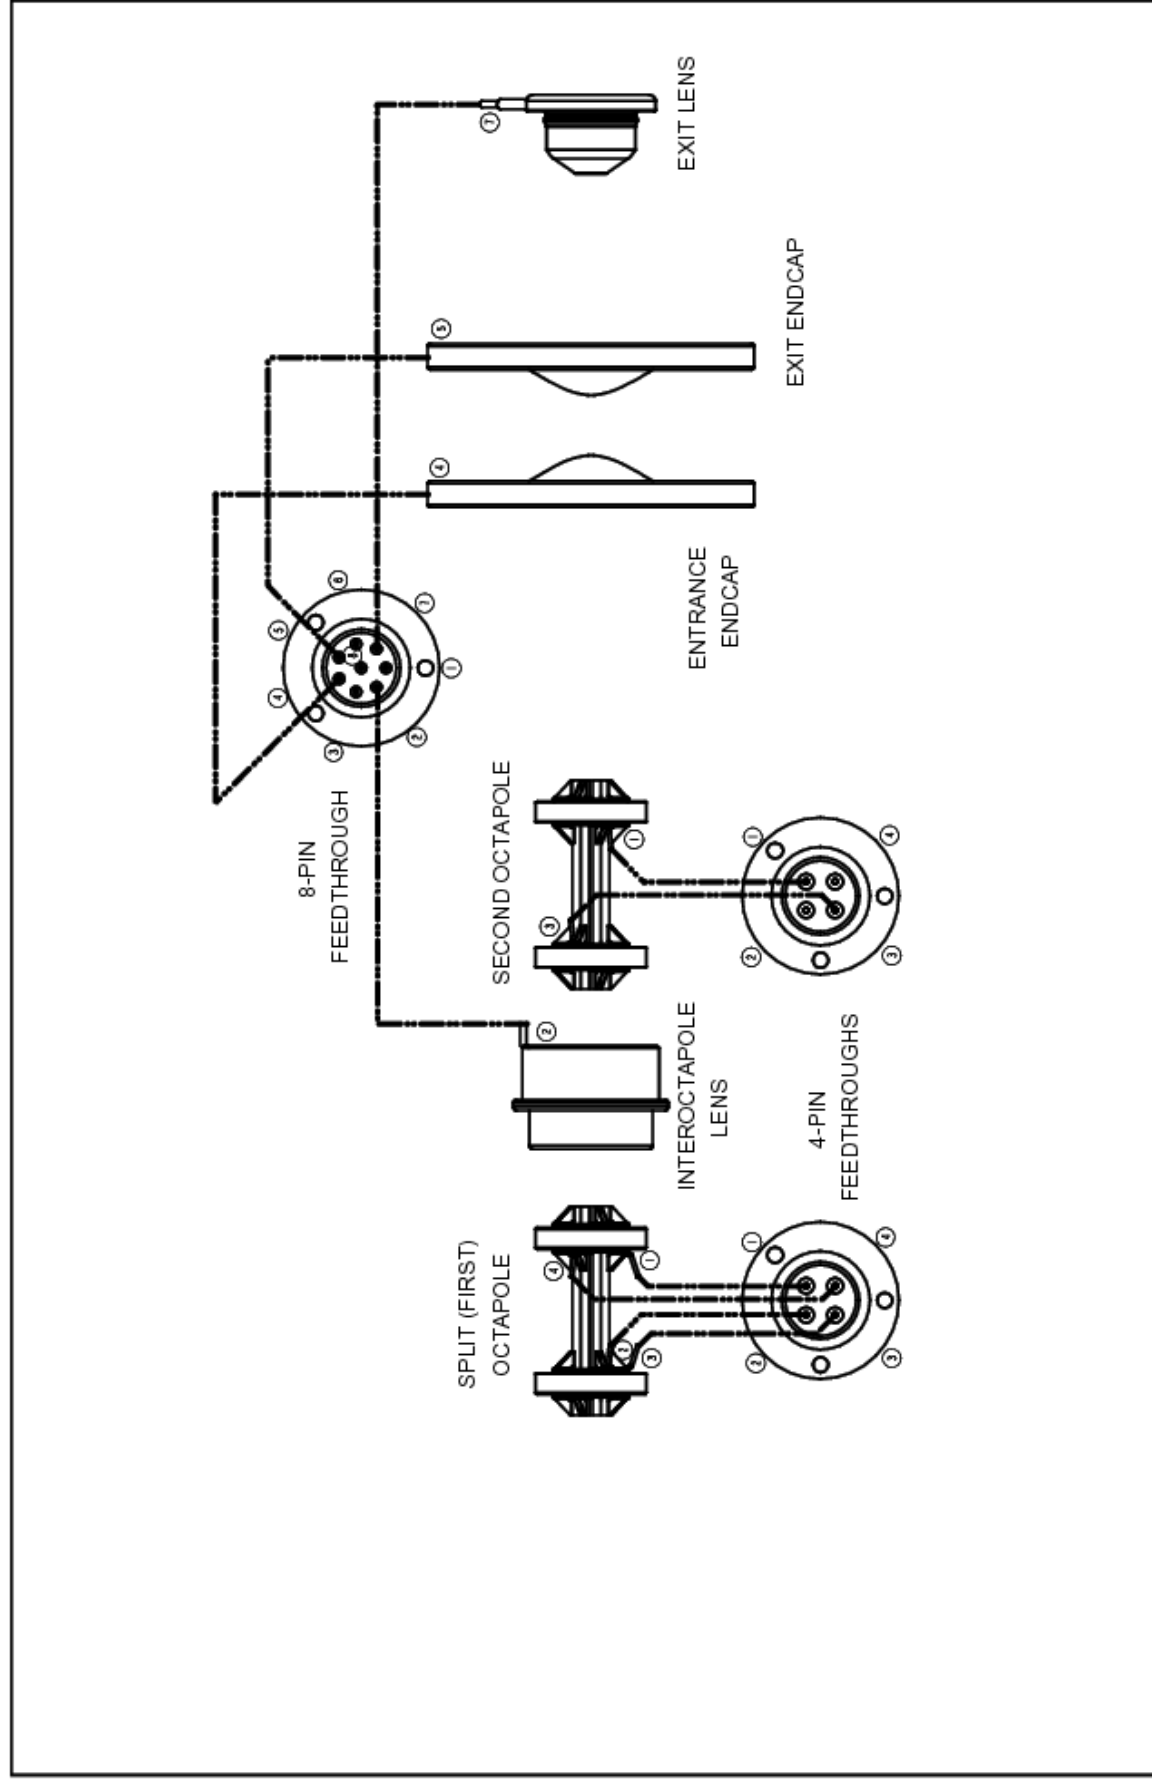

Figure 4-8. Wiring diagram for the ion optics and mass analyzer
6. Reconnect the four electrical leads from the 4-pin feedthrough to the split (first) octapole according to the wiring diagram shown in Figure 4-8 on page 4-32.
7. Reconnect the two electrical leads from the other 4-pin feedthrough to the second octapole according to the wiring diagram shown in Figure 4-8.
8. Reconnect the electrical lead from pin 2 of the 8-pin feedthrough to the interoctapole lens according to the wiring diagram shown in Figure 4-8.
9. Reconnect the electrical lead from pin 4 of the 8-pin feedthrough to the entrance endcap electrode according to the wiring diagram shown in Figure 4-8, by inserting the pin on the end of the lead into the socket in the electrode.
10. Reconnect the electrical lead from pin 5 of the 8-pin feedthrough to the exit endcap electrode according to the wiring diagram shown in Figure 4-8, by inserting the pin on the end of the lead into the socket in the electrode.
11. Reconnect the electrical lead from pin 7 of the 8-pin feedthrough to the exit lens according to the wiring diagram shown in Figure 4-8. Ensure that the exit lens lead pin does not contact the nut.